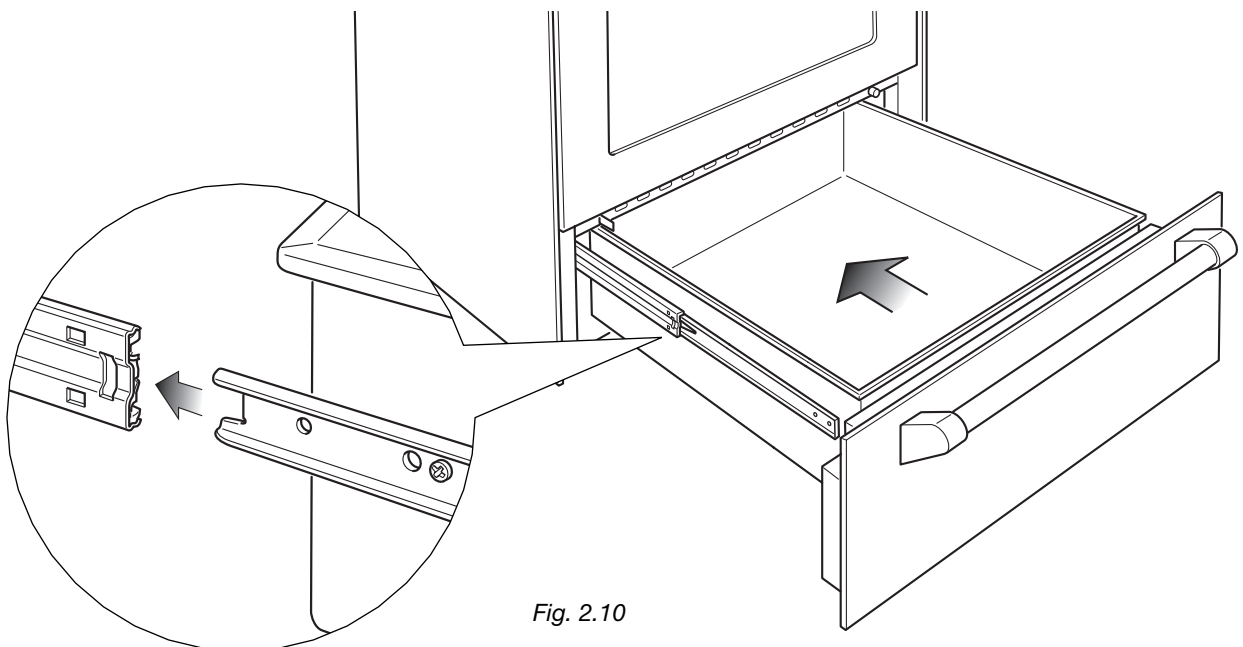

Fig. 2.10
Fitting the warming drawer (fig. 2.10):
1. Insert the drawer guides into the range guides (fig. 2.10)